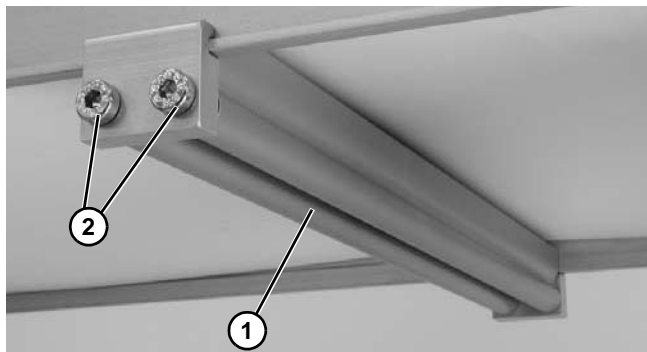

Figure 17
3. Install roller assembly as shown (Figure 17, item 1). Tighten screws (Figure 17, item 1) to 60 in-lb (7 Nm).